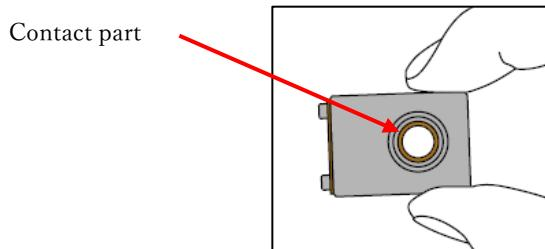

Figure 1 How to hold Rotating contact
When you hold the rotating contact, pinch it with two fingers and never touch the center contact part as shown in Figure 1. Never drop it or gives a shock.
- ③ Unscrew the screws on the brush mounting bracket and remove the wiring terminals of the rotating contact. Remove it from the driven shaft.
- ④ Hold a new rotating contact, with its metal top facing toward you as Figure 1, while the cable being on your right side. Then put the driven shaft through the center hole.
- ⑤ Put the pulley and the drive belt back in place.
- ⑥ Tighten the wiring terminals of the rotating contact.